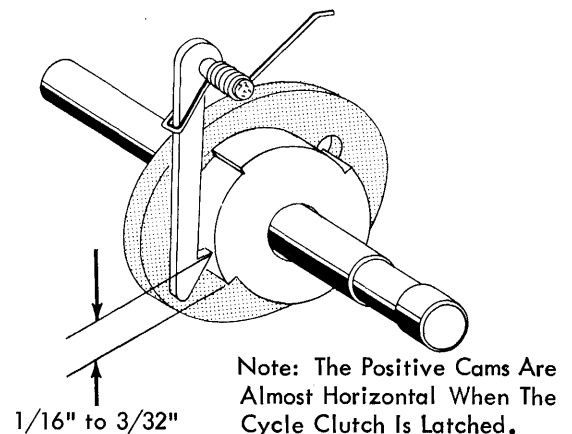

FIGURE 90. Radial Position of Cycle Clutch Collar
- Radial position of the collar - (The position of the collar directly controls the radial position of the left hand end of the cycle clutch spring with respect to the cycle shaft. It determines how much the spring clutch will be expanded when the cycle clutch sleeve is latched and the cycle shaft is in its rest position.) Adjust the collar so that when a zero tilt, negative-five rotate character is hand cycled the cycle clutch spring will begin to slip (expand) when the cycle shaft is 1/16" to 3/32" from its rest position measured on the surface of check ratchet (Fig. 90).